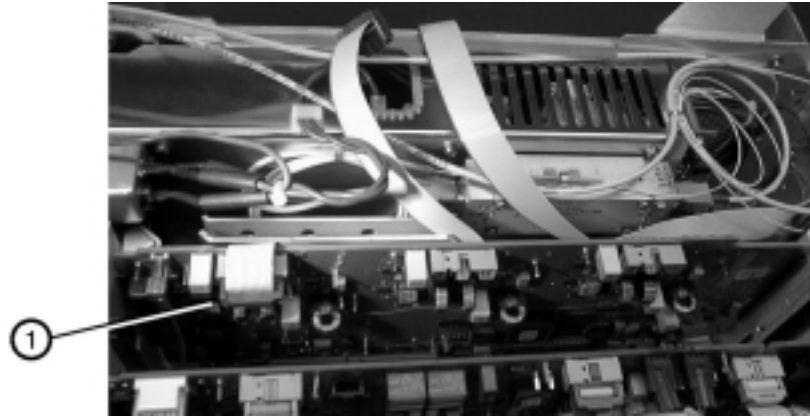

Figure 3-55. Disconnecting the 16-pin connector from the Options board
- 5 Disconnect the EELED 10-pin ribbon cable from the rear connector on the Options board. See ① Figure 3-55 below.